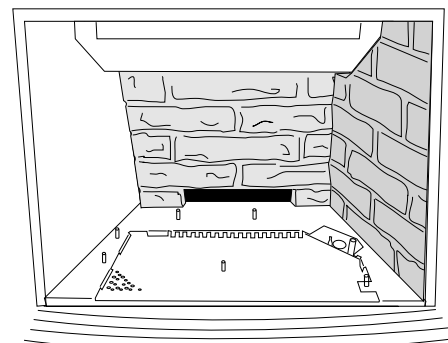

Figure 51. Install the Side Panels.
5. **Install the Side Panels.** Tilt each panel, bottom edge first, into position against the side walls. The panels will stand on their own against the wall. Push them back against the Rear Panel. Fig. 51.